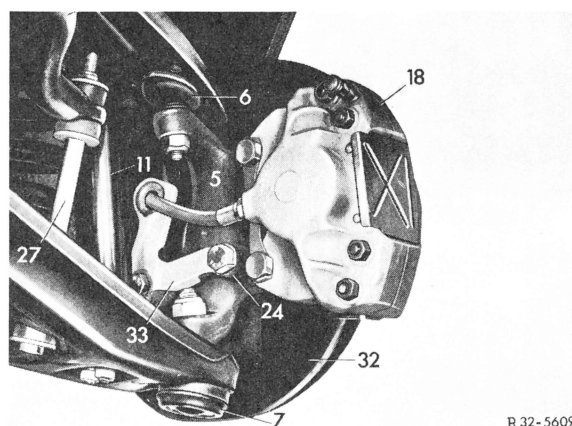

Fig. 1
- 1 Loosen lower shock absorber suspension and connecting linkage of torsion bar (Fig. 1).